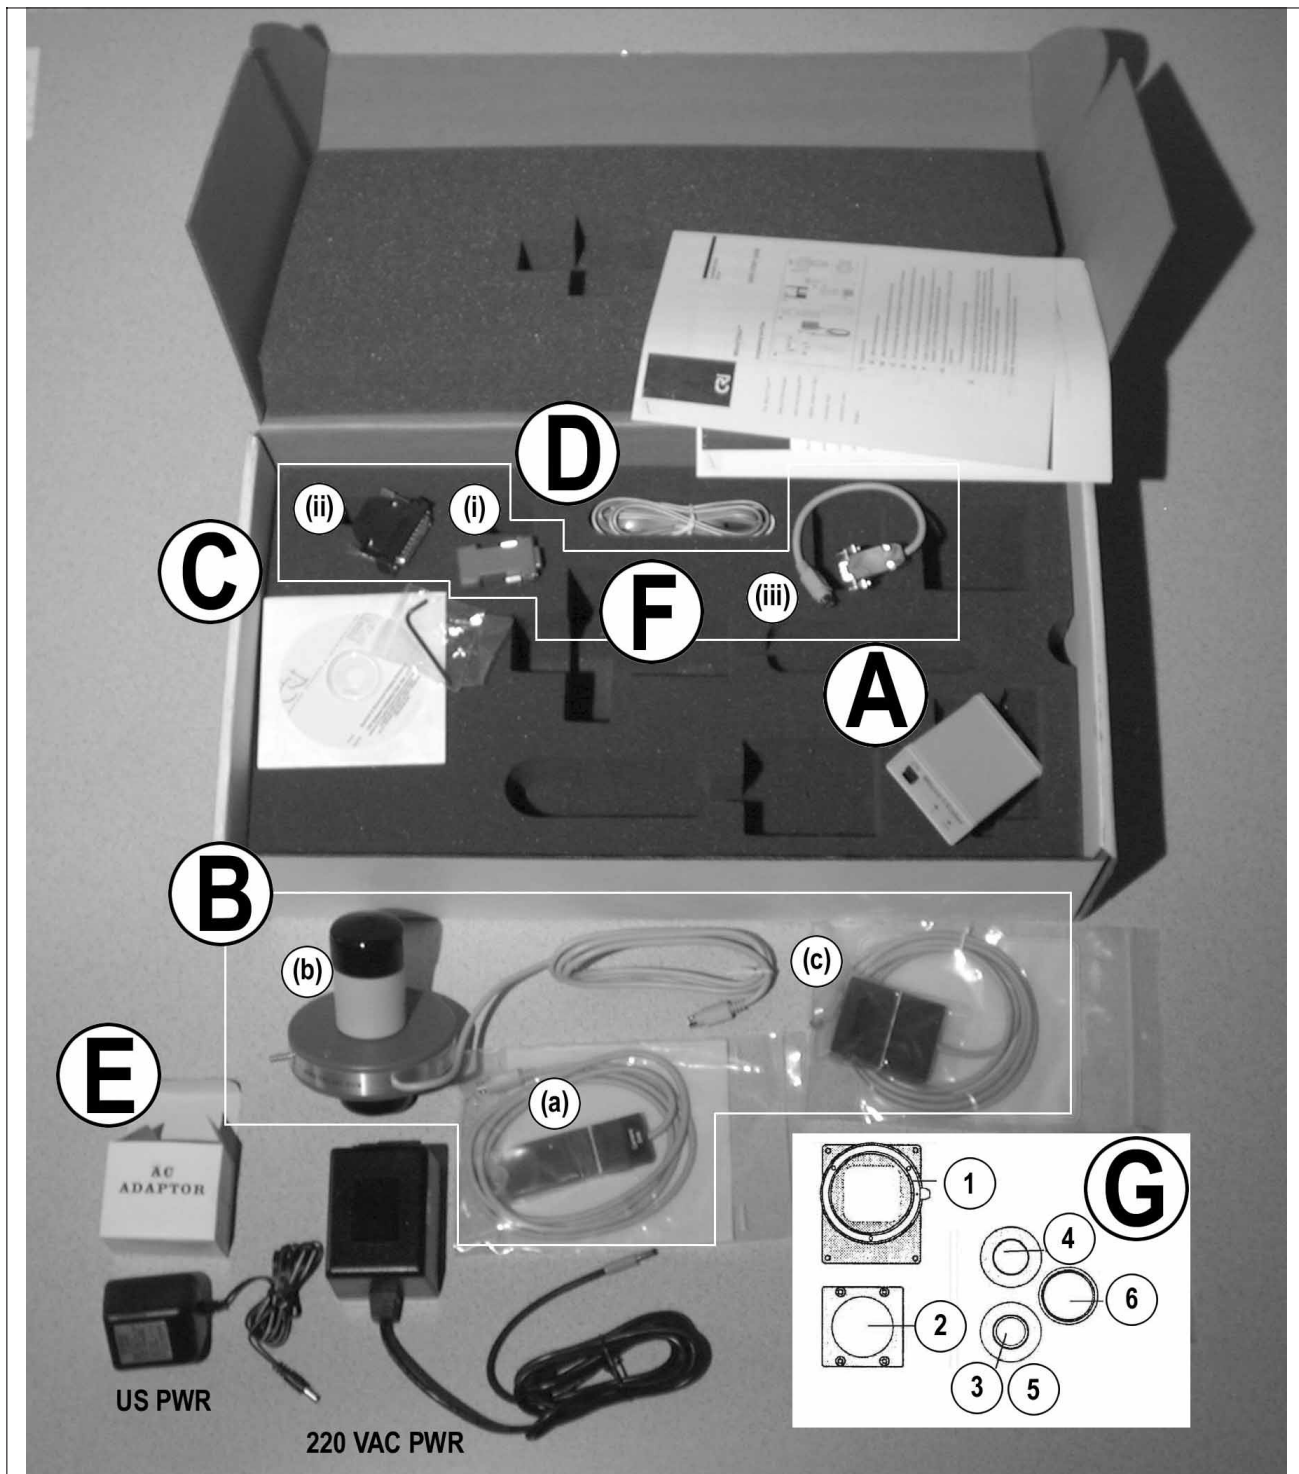
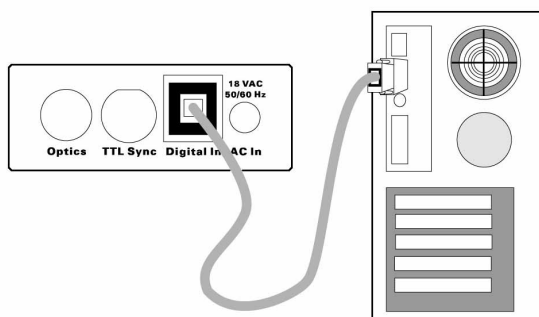
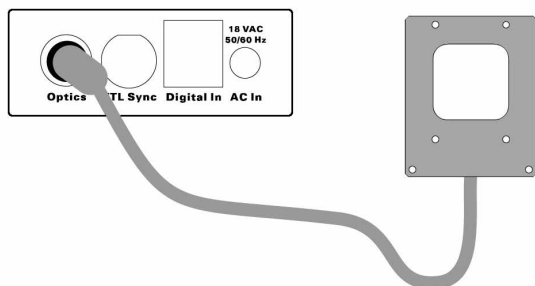
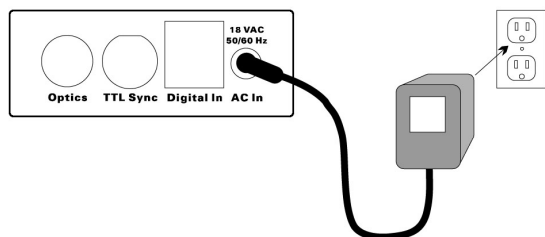

Figure 3-1 Shipped Components
Figure 3-2 Connecting Electronics Module to Computer
Figure 3-3 Connecting Fiber Optics Module
Figure 3-4 Connecting AC Power Transformer
Figure 3-1 show the major components included in the shipping container. Each is identified and described briefly in Table 3-1.
F	Communications adapters , (i) DB-9 COM port-to-RJ-12 modular jack adapter, (ii) 25-pin parallel port-to-RJ-12 adapter, or (iii) Mac serial adapter used in conjunction with F (i) on Figure 3-1.
G	Macro*Color adapters for your particular configuration: G (1-6) on Figure 3-1: (1) F-Mount, female adapter, (2) Adapter plate for inserts, (3) T-Mount, male kit, (4) C-Mount, female kit, (5) C-Mount, male kit, and (6) 52 mm filter adapter kit for T-Mount.
1. Carefully remove the Micro*Color filter optics module OR the Macro*Color filter optics module (labeled B on Figure 3-1) from the plastic bag. Do NOT touch the exposed surface of the filter.
2. Connect one end of the appropriate **communications adapter** (labeled F on Figure 3-1) to either the serial (COM) or parallel (LPT) port on the rear of your computer. Insert the other end of the Communications Adapter (the end with the RJ-12 telephone-style cable) into the “Digital In” port on the rear of the electronics control module. See Figure 3-2 for reference.
3. Connect the appropriate **CRI filter optics module** (labeled B on Figure 3-1) attached mini-DIN 8 cable to the “Optics” port on the rear of the electronics controller module. See Figure 3-3.
4. Ensure that the Power switch on the front panel of the electronics controller module is in the “OFF” (extended) position, then connect the AC power transformer (labeled D on Figure 3-1). Plug one end of the the **AC power transformer** into an acceptable electric power outlet and then plug the other end of the transformer into the “AC In” connector on the rear of the electronics controller module. See Figure 3-4.
At the time of order, CRI supplies you with the appropriate microscope coupler for your particular microscope type. These are shown graphically as “G” in Figure 3-1.